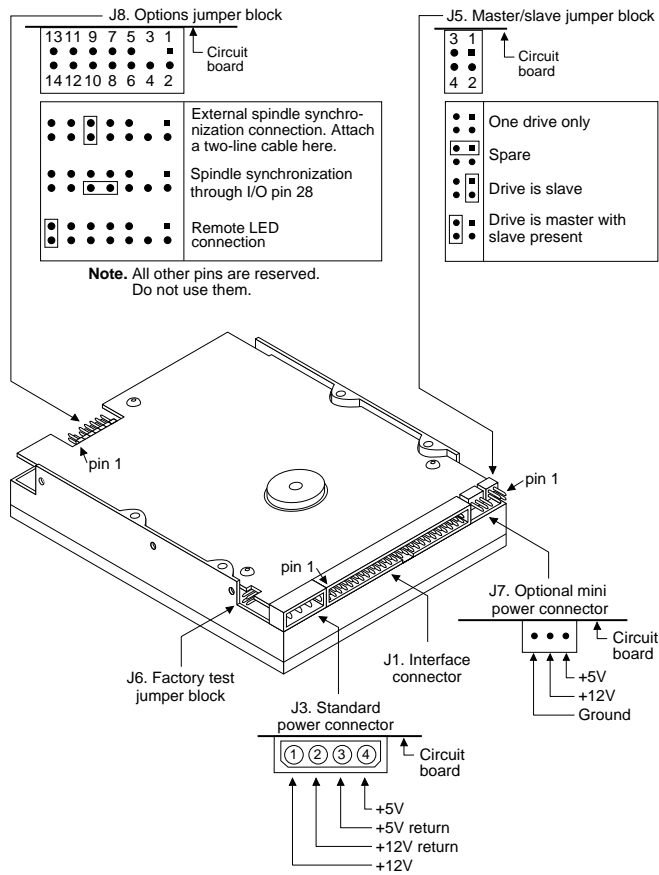

Figure 1. Connectors and jumpers
To configure the drive as a master or slave, install jumpers on the master/slave jumper block as shown in Figure 1 on page 4.
See Figure 1 for the locations of the connectors and jumper blocks.
6. Attach the 40-pin AT interface cable. Match pin 1 of the interface (ribbon) cable to pin 1 of the interface connector on the drive and on the computer. Pin 1 is usually denoted by a stripe along one edge of the ribbon cable. The location of pin 1 of the drive interface connector is shown in Figure 1.